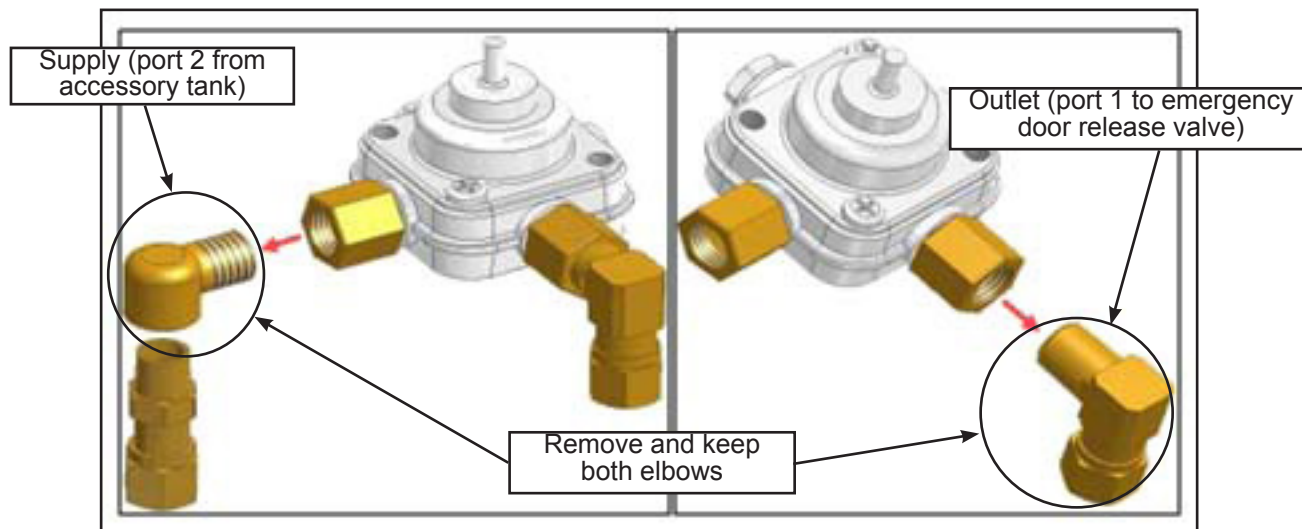

Figure 6 - Remove and Keep Both Elbows
- 1.7. Remove and keep both elbows. Discard the defective valve and the adapters (see Figure 6).